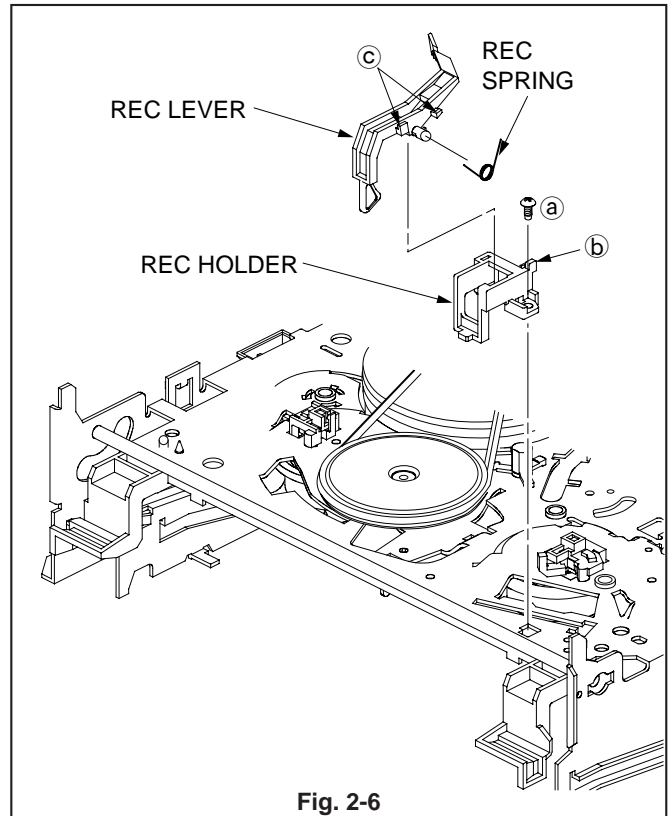

Fig. 2-6
1. Remove the screw (a) fastening the REC HOLDER shown in Fig. 2-6 to remove the REC HOLDER.
2. Release the REC SPRING shown in Fig. 2-6 from the catch (b) of the REC HOLDER to remove the REC LEVER.
3. Release the two catches (c) of the REC LEVER shown in Fig. 2-6 to remove the REC SPRING.
1. Install the REC SPRING shown in Fig. 2-6 to the REC LEVER and hook the REC SPRING to the catches (c).
2. Install the REC LEVER shown in Fig. 2-6 to the REC HOLDER.
3. Hook the REC SPRING shown in Fig. 2-6 to the catch (b).
4. Install the REC HOLDER shown in Fig. 2-6.